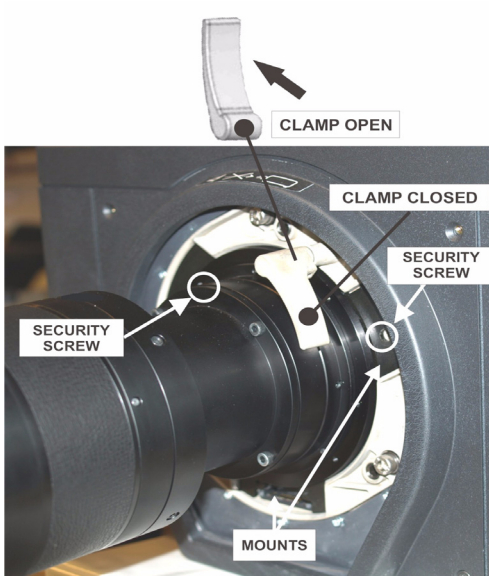

FIGURE 2-1 LENS INSTALLATION
2. Rotate the lens clamp to the OPEN position, see Figure 2-1 Lens Installation.